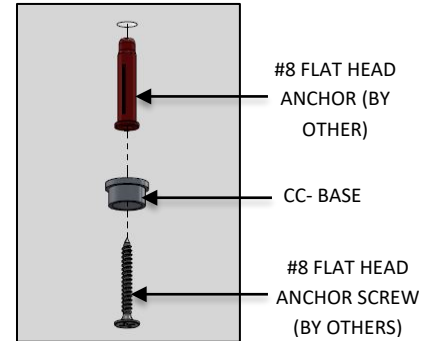

FIG. 9- HARD CEILING INSTALLATION
4. Install the CC-BASE to the #8 FLAT HEAD ANCHOR (by others) previously installed at the non-powered mounting location and secure with the #8 FLAT HEAD ANCHOR SCREW (by others) as shown in FIG. 9.